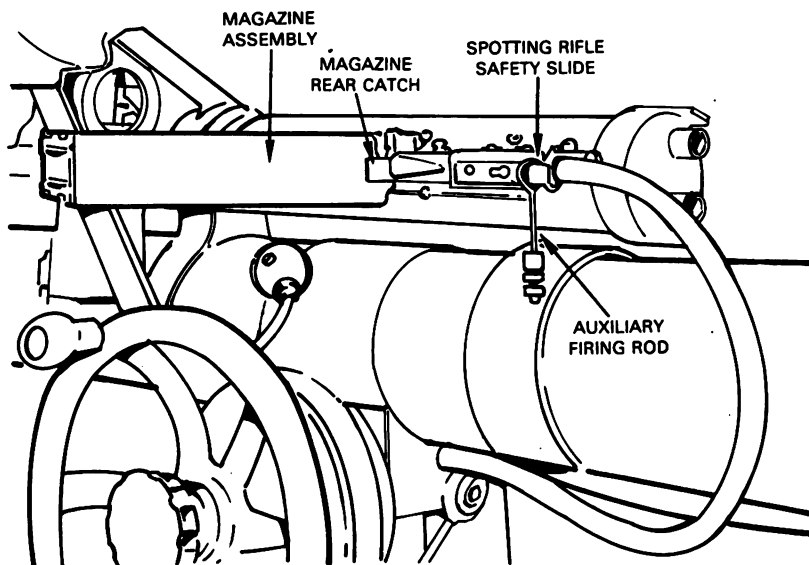

Figure 1.
1. **Loading** (figure 1). To load the spotting gun, the gunner depresses the magazine rear catch and inserts a loaded magazine. He then pulls the bolt completely to the rear, taps the bottom of the magazine, and releases the bolt.